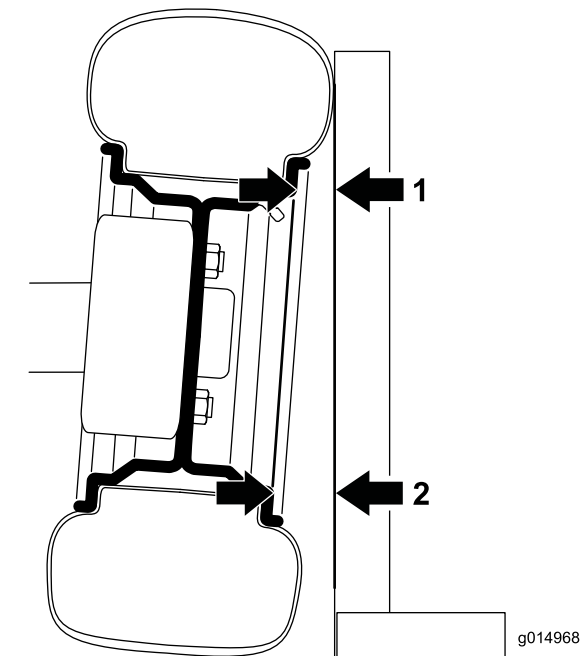

Figure 32
1. To check the camber, place a 90 degree square on the ground with the vertical edge touching the face of the tire (Figure 32).
2. Measure from the same part of the rim on the top and bottom of the tire to the square (Figure 32).